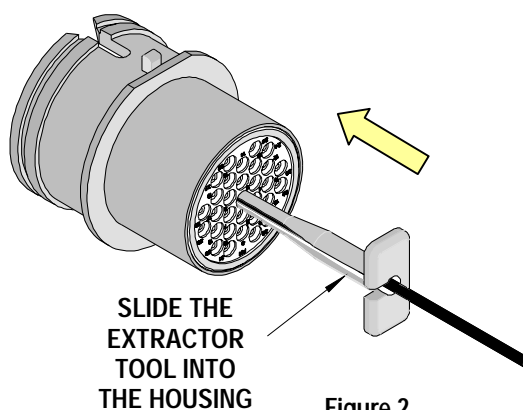

Figure 2
3. Continue to push the tool into the housing until it engages the contact and resistance is felt. See Figure 2.